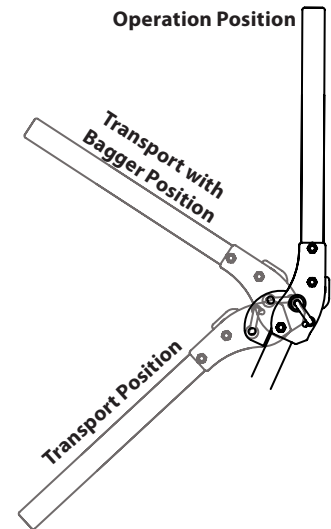

Figure 3-2
Refer to Figure 3-2 and the following descriptions and uses for the three (3) positions for the ROPS.
2. Move the ROPS into the desired position. The three positions are TRANSPORT position, TRANSPORT WITH BAGGER position and into the OPERATION position. See Figure 3-2.